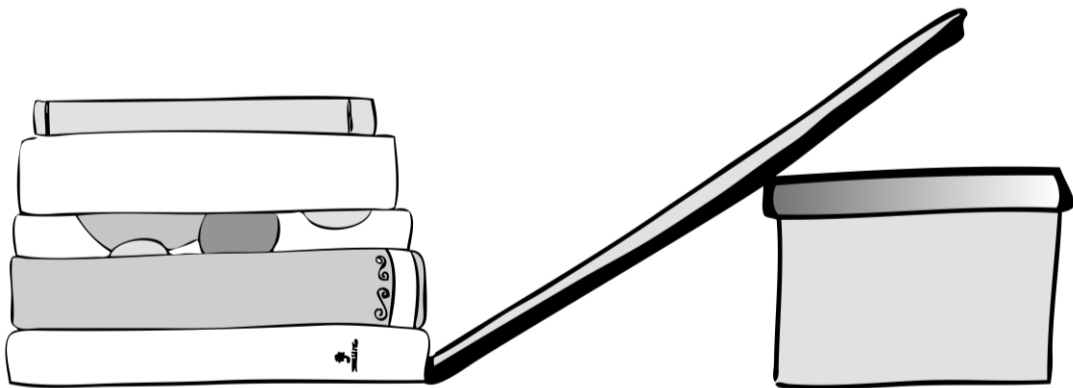

Figure 1: Ramp setup, propped up by common household items.
- Set a ramp base at an angle of about 45-60° at each table. The exact angle is not important, but all ramps should be at the same angle. See Figure 1.